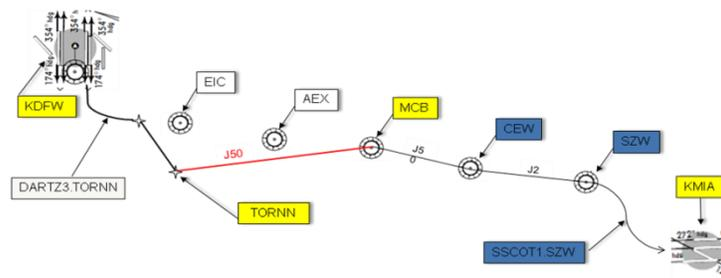

Figure 12. Depiction of a revision to the initial portion of the DCL.
- A change in the Departure Procedure and/or transition fix and route that connects downstream to the previously cleared route. In the example shown in Figure 12 below, the clearance from TORNIN to MCB is the modified route and may be loaded into the FMS via the LOAD prompt. The Departure Procedure DARTZ3.TORNN must be *manually entered* into the FMS along with the runway (if required). **NOTE:** This type of clearance can also be issued as a “Revised Initial Clearance” as your first received DCL. This would be noted with a text string of “THIS IS A REVISED CLEARANCE” within the clearance.